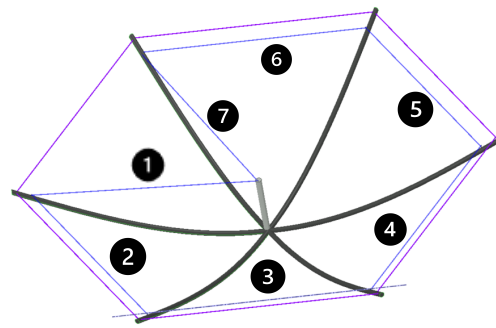

Figure 11 20m antenna installed (support cords not shown)
b) Walk round the antenna attaching the 20m antenna to the blue wire clip on each spreader and proceed in a counterclockwise direction until you have attached to all wire clips (Figure 11)